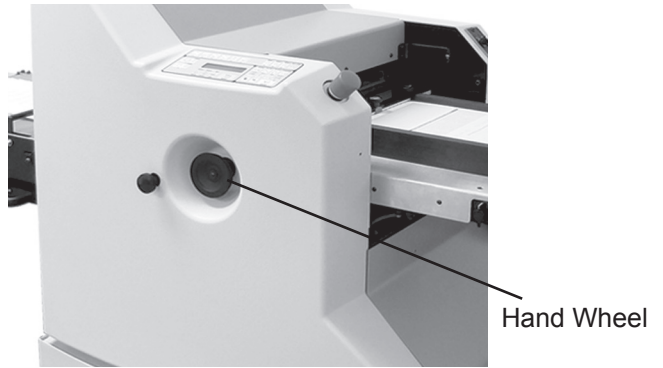

Fig. 10
3. Turn the hand wheel (Fig. 10) to be sure that the fold plates are properly installed and not rubbing on the fold rolls.
4. Rotate the hand wheel to check that the gears are properly meshed (Fig. 10).